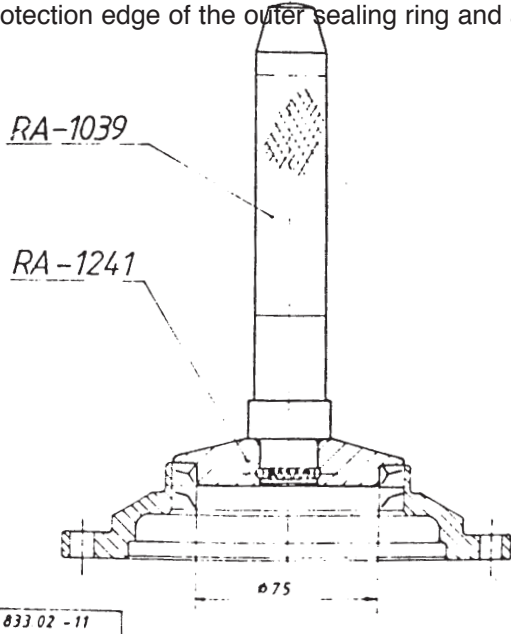

Fig. 3.: DRIVING OUT THE SEALING RINGS
Back out the hex. bolts (6) and remove the cover (5). By means of the tools shown remove the used sealing rings (4) from the cover (see Fig. 3.).